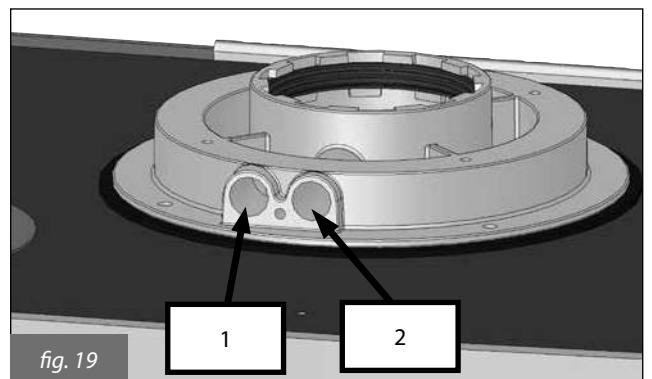

fig. 19
The tower is designed with two pre-arranged openings directly accessing air and flue gas ducts (fig. 19).
- assess combustion air from no. 1 opening (fig. 19).
- assess flue gas temperature and CO₂ from no. 2 opening (fig. 19).